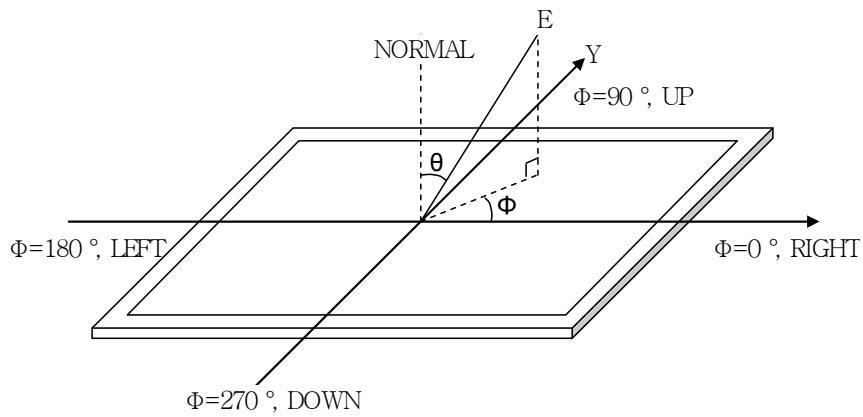

FIG. 4 Viewing Angle
7. Viewing angle is the angle at which the contrast ratio is greater than 10. The angles are determined for the horizontal or x axis and the vertical or y axis with respect to the z axis which is normal to the LCD module surface. For more information, see the FIG. 4.